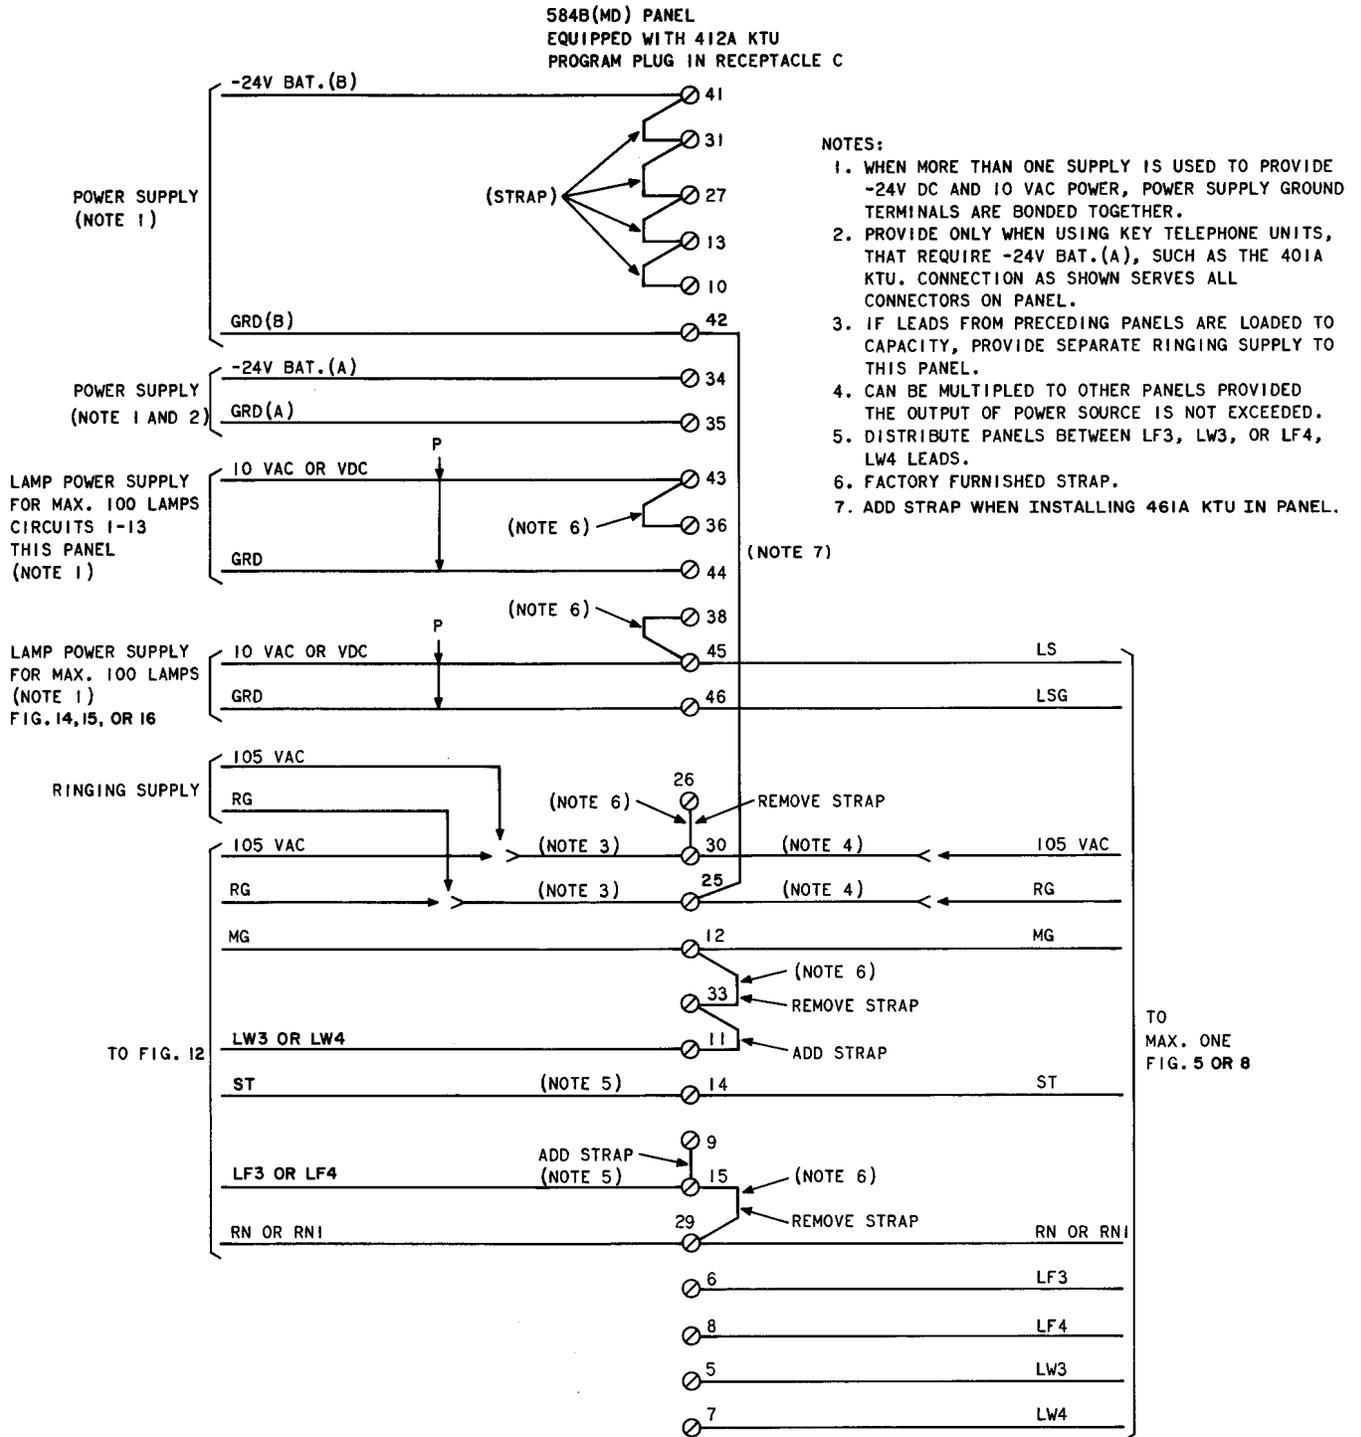

Fig. 13—584B (MD) Panel Equipped With 412A KTU (Panel used to control one other panel)
- Fig. 13—584B (MD) Panel Equipped With 412A KTU (Panel used to control one other panel)